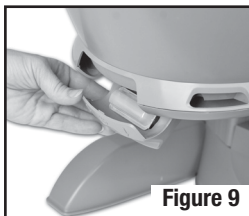

Figure 9
- b. Open Bait Chamber by pulling door down at the bottom of exhaust ring (**Figure 9**).